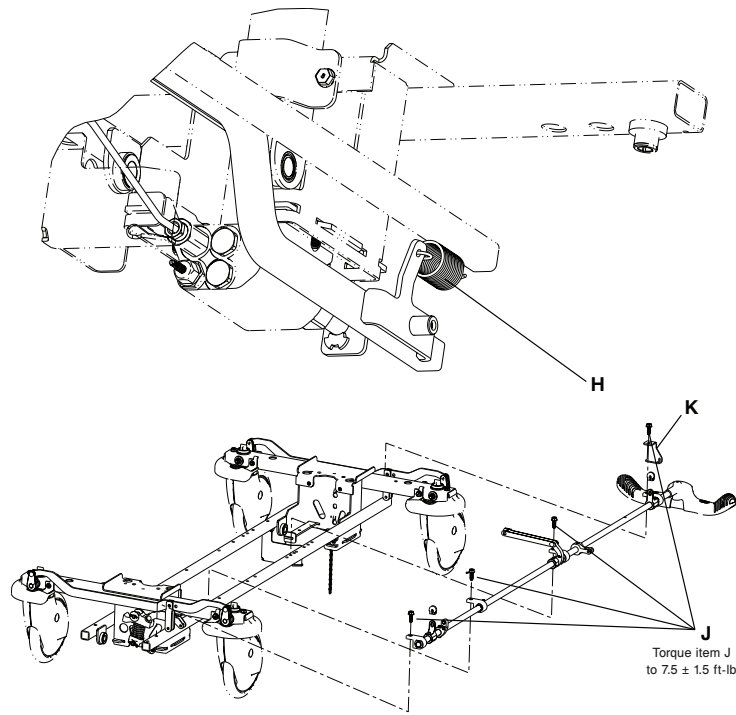

Figure 8 – Brake rod replacement - foot end
11. Using needle nose pliers, disconnect the return spring (H) from the foot end (Figure 8).